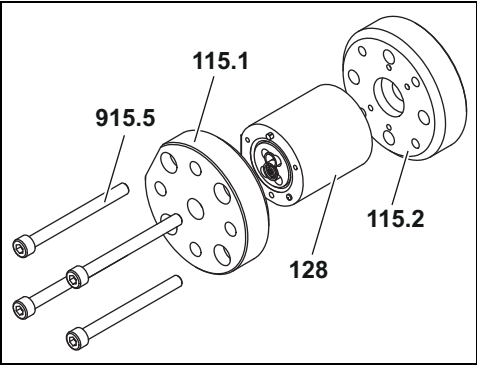

Fig. 1
1. Remove the socket screws **915.5** and the flanges **115.1** and **115.2**, see Fig. 1, page 30.